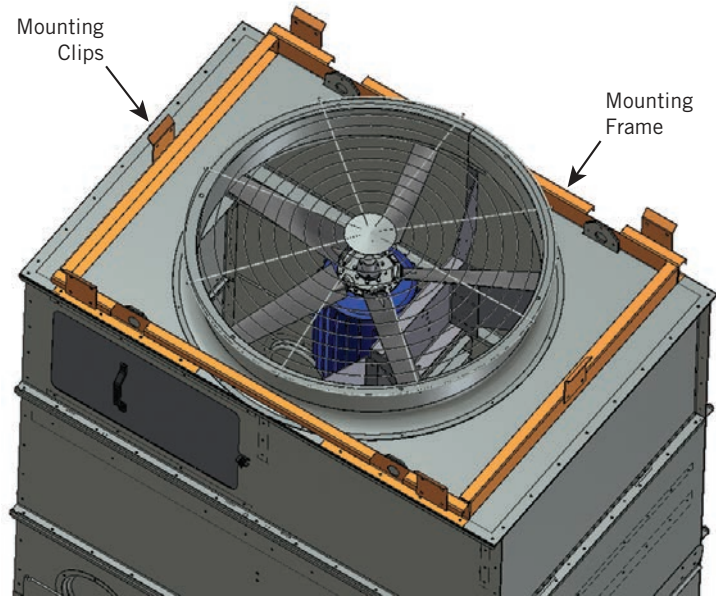

Figure 23. Position of Discharge Sound Attenuation Clips
1. Verify the mounting frame and clips are factory installed as shown in **Figure 23**.